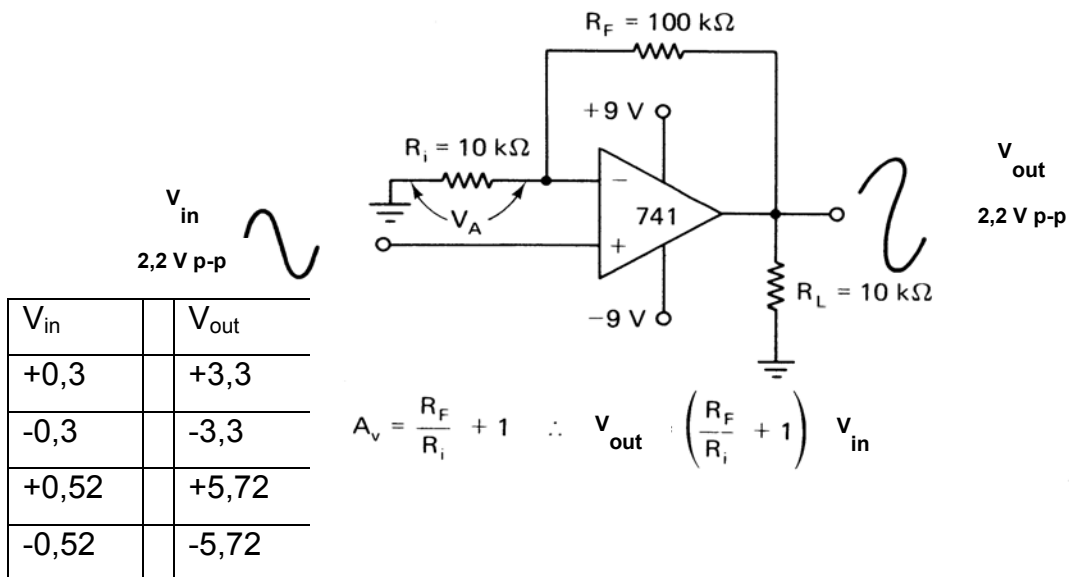

FIGURE 7.2 – Operational amplifier circuit
7.5 The operational amplifier in FIGURE 7.2 has been coupled in a certain way. Make use of your knowledge of operational amplifiers to determine the following:
- 7.5.3 Determine the gain at which the amplifier is set, making use of the information provided in the circuit in FIGURE 7.2. (2)